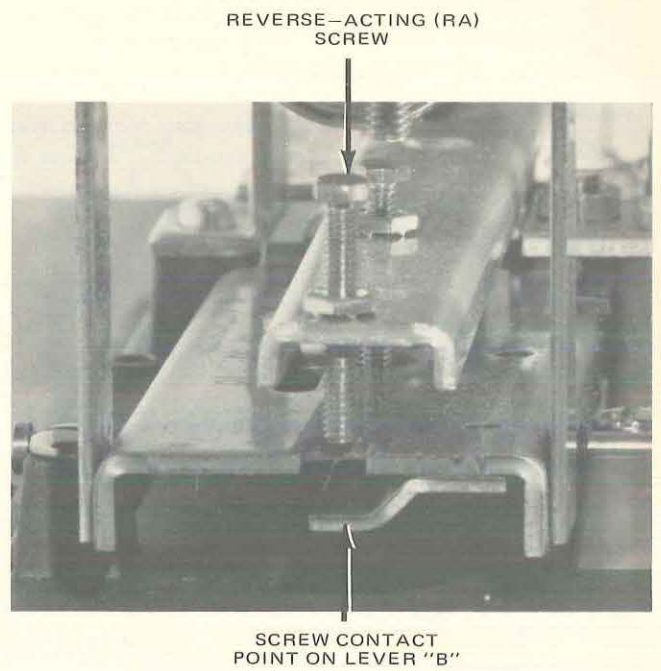

Figure 2a – REVERSE ACTING SCREW ADJUSTMENT
3. With 3/16" wrench, turn RA screw in (CW) until contact is made with lever "B". See Figure 2A. With a 3/16" wrench, back DA screw out (CCW) approximately 4 turns. See Figure 3.